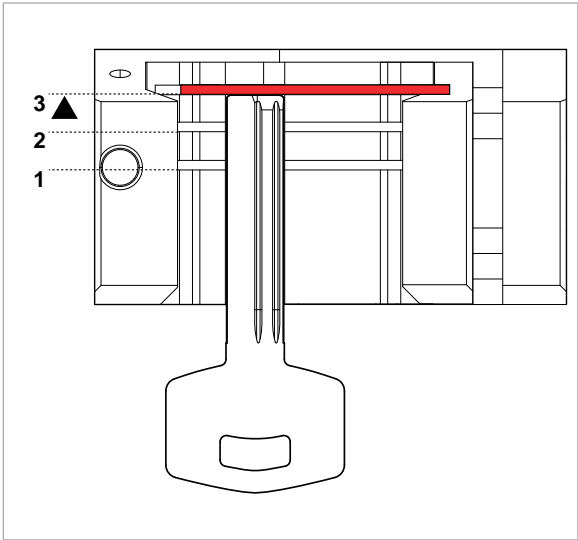

Fig. 37
- the keys with LOCK IN POINT must be positioned with reference to one of the channels (1-2-3-4) as indicated in the Silca Key Program and/or on the display. Use the bar supplied for this operation (Fig. 37 and Fig. 39).
- 1) Unscrew the knob (N)
- 3) Close knob (N) to lock the key.